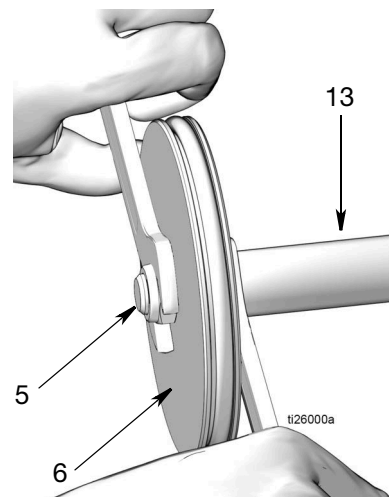

FIG. 19
- a. Pull piston rod (13) and piston (6) out of air cylinder (2) (FIG. 19).
- b. To separate piston rod (13) and piston (6) use two wrenches, working in opposite directions. Secure one open end wrench to flats of piston rod and the second wrench is used to loosen the nut (5) as shown in FIG. 19.
**NOTE:** The open end wrench secured to the flats of the piston rod is only used to hold the rod securely, do **not** rotate this wrench. Moving this wrench could scratch or damage the surface of the piston and cause fluid leaks during pump operation. Only move the wrench holding the nut (5) to loosen and remove the nut.